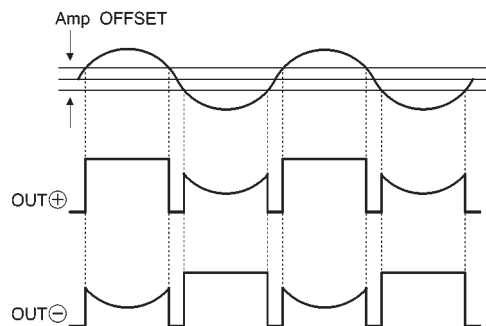

Fig.9
(3) Output waveforms are shown in Fig. 9. Because of the amplifier offset, the output is left OPEN when the output signal switches from positive to negative. The output waveform is determined by the external circuit because the IC impedance increases during this transition period. Since inductive loads are usually provided, a capacitor should be connected to suppress backlash voltages.